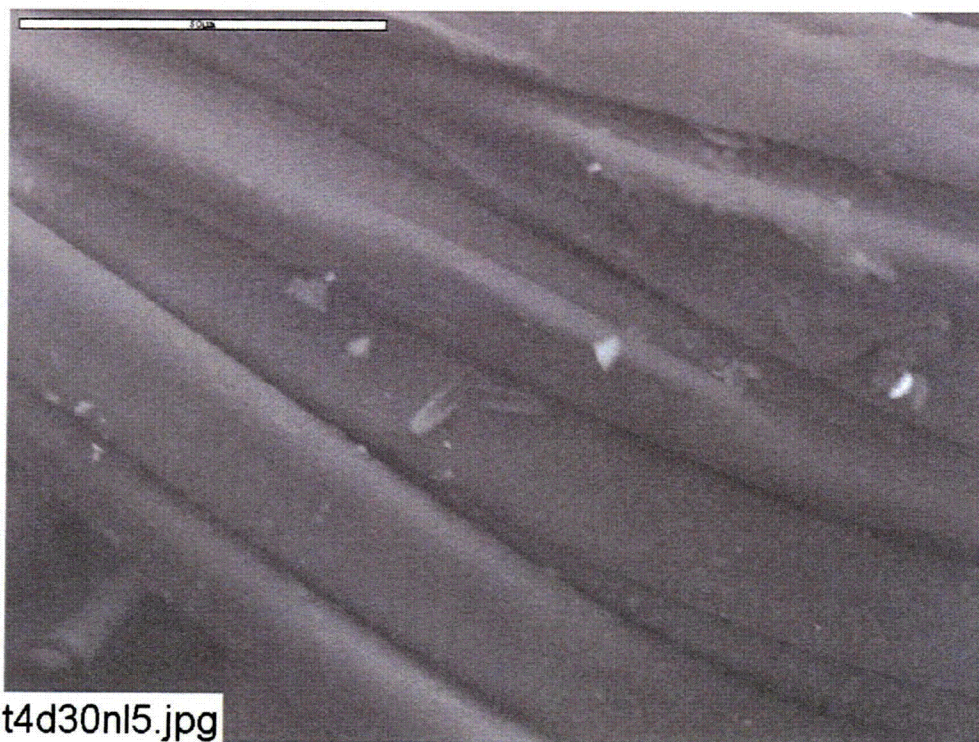

Figure C2-4. Environmental SEM image magnified 1000 times for a Test #4, Day-30 nylon mesh submerged in low-flow area (inserted on Day 4). (t4d30nl5.jpg)
- Figure C2-4. Environmental SEM image magnified 1000 times for a Test #4, Day-30 nylon mesh submerged in low-flow area (inserted on Day 4). (t4d30n15.jpg) C2-5